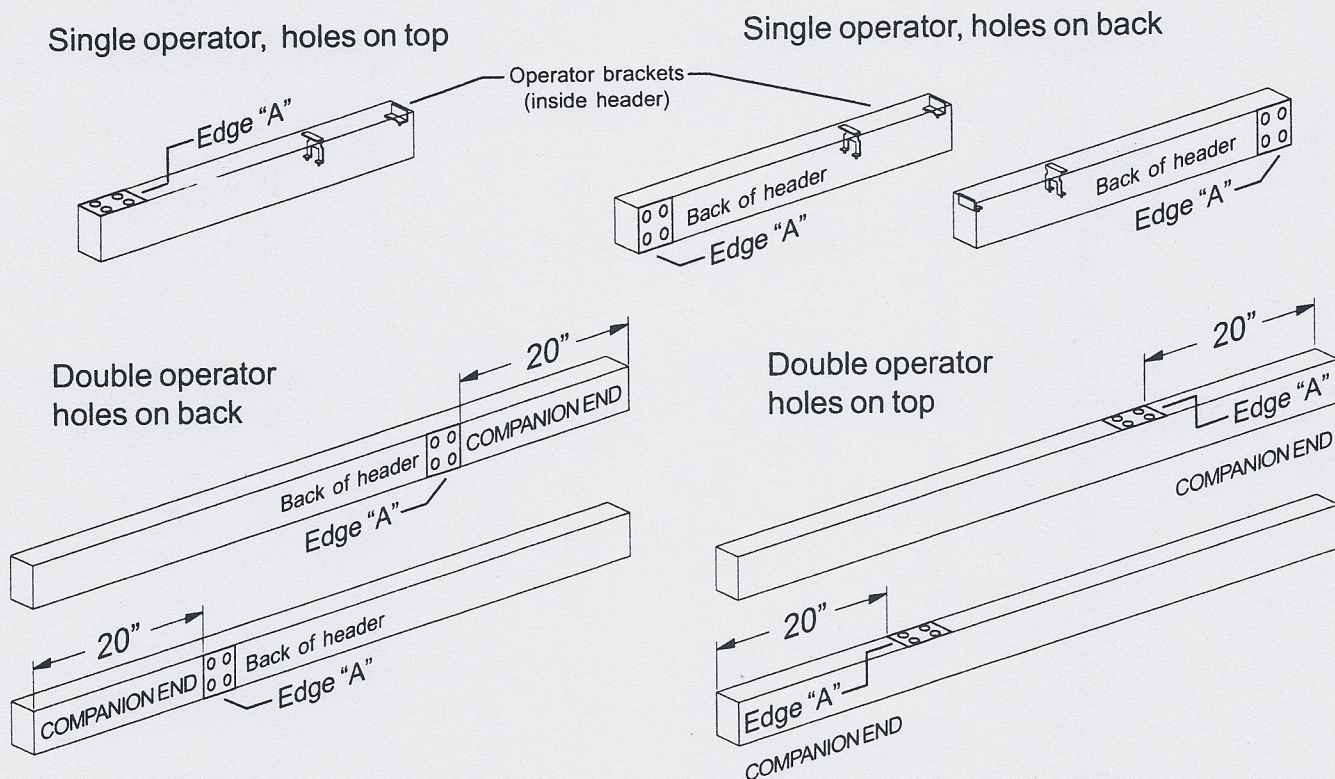

Figure 3-1
- 3.2. Refer to Figure 3-1 and step 3.3 and prepare wire access holes appropriate for the application in the header using template 740070. Be sure to position edge "A" of template 740070 as shown in Figure 3-1.